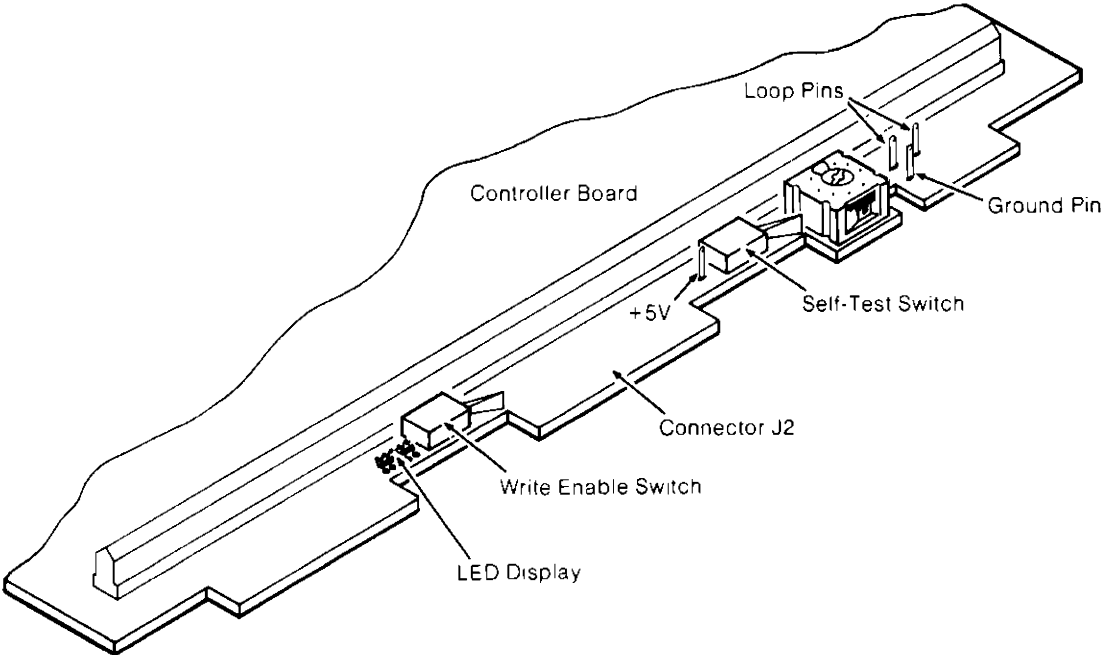

Figure C-4. Self-Test Controls
10. Switch the disc memory on and press the self-test switch (see Figure C-4). Upon completion of the test, the LED display should have only the right-most LED on (under the * of the ABCD* label). Any other final LED display pattern indicates that the test has failed.
12. Insert an initialized, write enabled, scratch disc into the drive(s) and close the door(s). Refer to Figure C-4 for the following steps.
31. Switch the disc memory on and press the self-test switch (see Figure C-4). Upon completion of the test, the LED display should have only the right-most LED on (under the * of the ABCD* label). Any other final LED display pattern indicates that the test has failed.
33. Insert an initialized, write enabled, scratch disc into the drive(s) and close the door(s). Refer to Figure C-4 for the following steps.